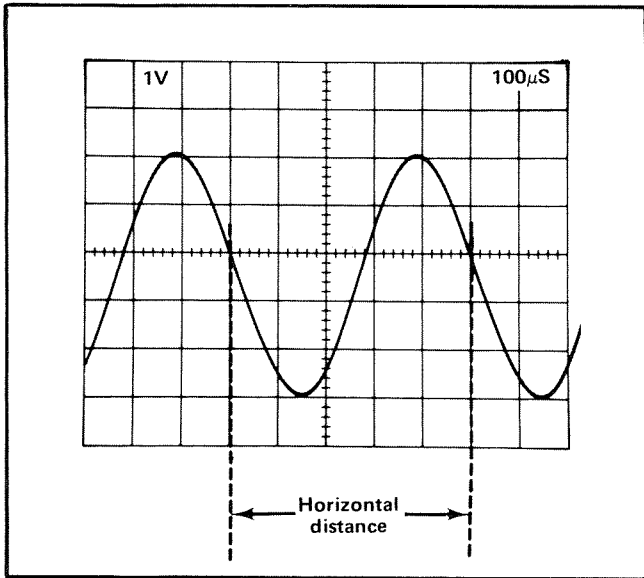

Fig. 2-11. Measuring the time duration between points on a waveform.
**Example.** Assume that the distance between the time measurement points is five divisions (see Fig. 2-11), and the TIME/DIV OR DL'Y TIME switch is set to .1 ms.
**Example.** The frequency of the signal shown in Fig. 2-11 which has a time period of 0.5 millisecond is: